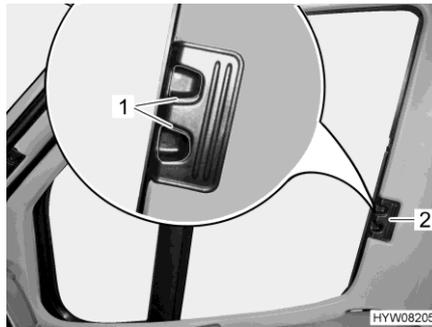

Fig. 106 Roman shade (driver's / front passenger's window)
- Press the release handles (Fig. 106,1) and hold them down.
- Using the handle (Fig. 106,2), draw the Roman shades for the driver's and passenger's window to the other side of the window and secure them to the magnetic strips.
- Use handle (Fig. 106,2) to push in the Roman shades for the driver's and passenger's window as far as possible.
- Let go of the release handles (Fig. 106,1) and let them engage.